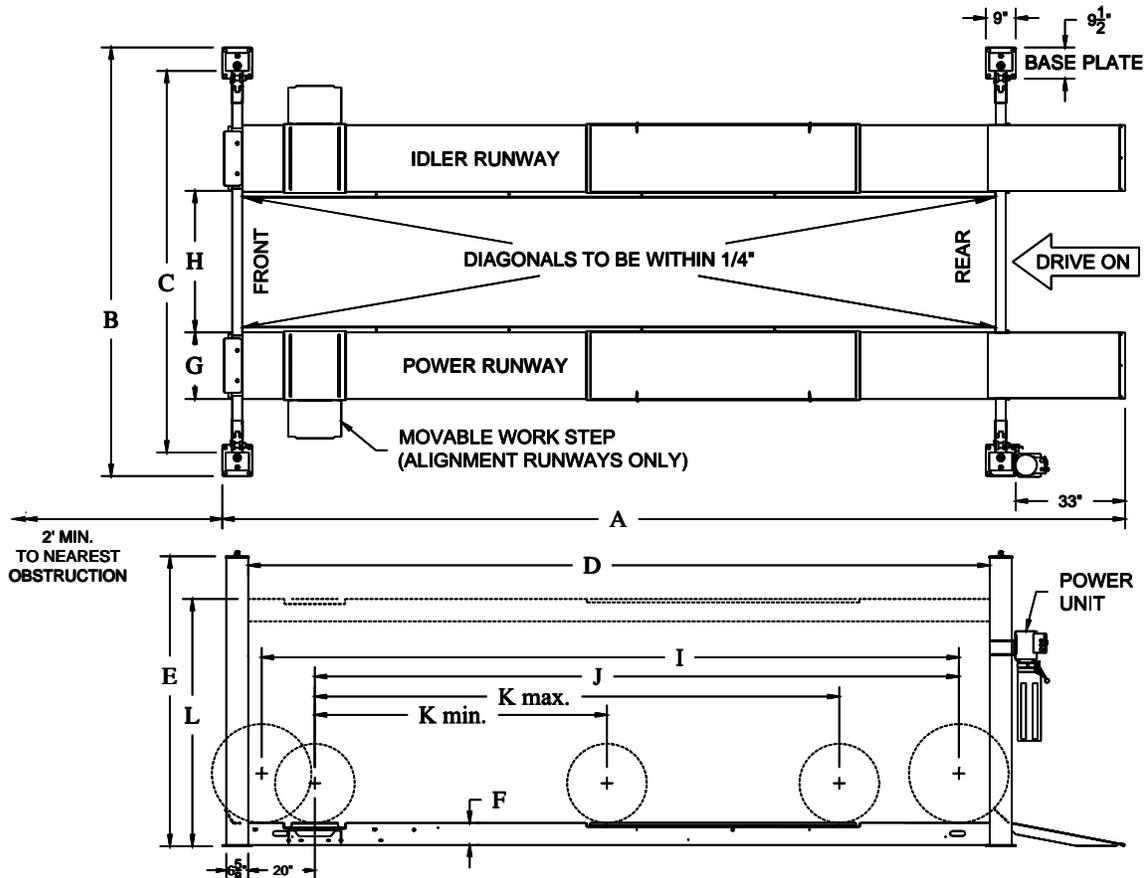

Fig 1 – General Specifications and Service Bay Layout
- 1) Lay out the service bay according to the architect's plans or owners instructions (**see Fig 1**). Be certain that the proper conditions exist, see page 3.
- 11) Attach both cross beams to the runways (**Fig. 4**) with  $\frac{1}{2}$ " x  $1 \frac{1}{4}$ " lg. flange head bolts (two at each end of each runway) being careful not to pinch the air line. Leave the air lines hanging out the bottom of the cross beam access holes at this time, they will be fed in through the runway after the lift is raised. **The outermost power runway slots should be in line with the outermost holes in the top of the cross beam, see Fig. 4.** The idler runway can be installed using the outer or inner sets of cross beam holes, see "Width Between Runways" dimension in Fig. 1. Do not torque bolts yet.